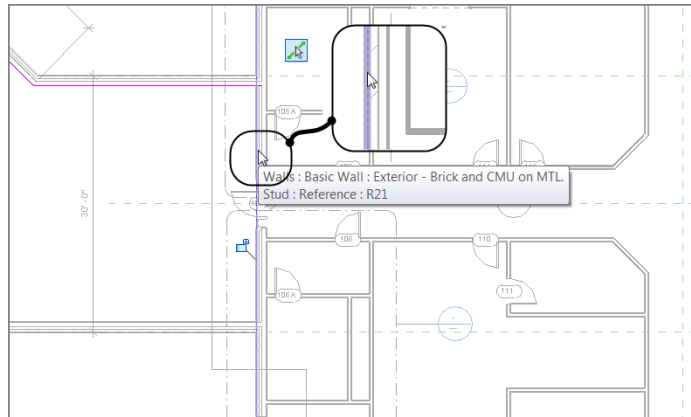

FIGURE 6.14: Picking the face of the east wall. The line will run past the corridor. That's okay; you'll trim it in a moment.
7. Pick the face of the east wall, as shown in Figure 6.14.